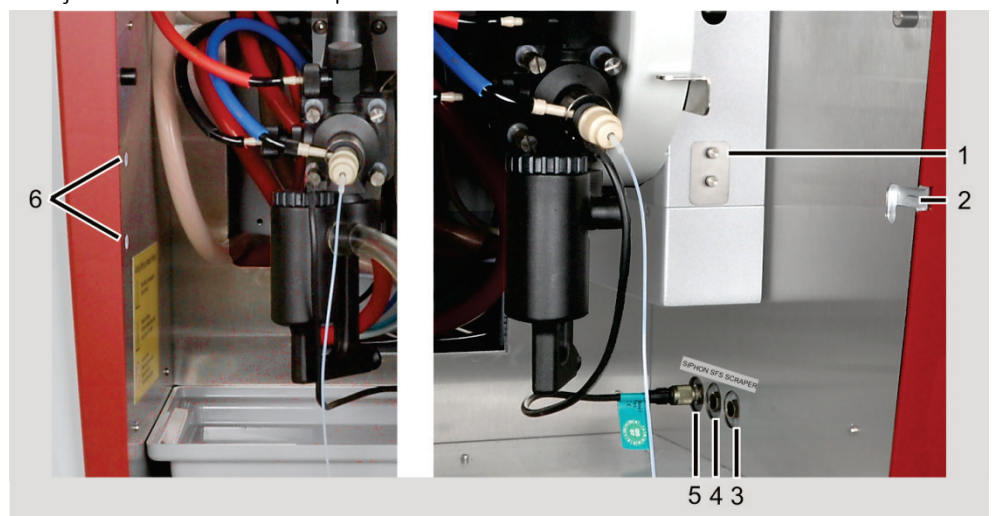

Fig. 48 Connections on the sample chamber walls
3. Plug the connector of the siphon sensor to the connection on the right sample chamber wall (item 5 in Fig. 48 on page 73).
5. Plug the connector of the siphon sensor to the connection on the right sample chamber wall (item 5 in Fig. 48 on page 73).
1. Hang the autosampler in the corresponding receptacles of the sample chamber (items 2, 6 in Fig. 48 on page 73). Adjust the adjustment screw on the right suspension so that the autosampler cannot slip out of the mounting hole (item 3 in Fig. 52 on page 78).